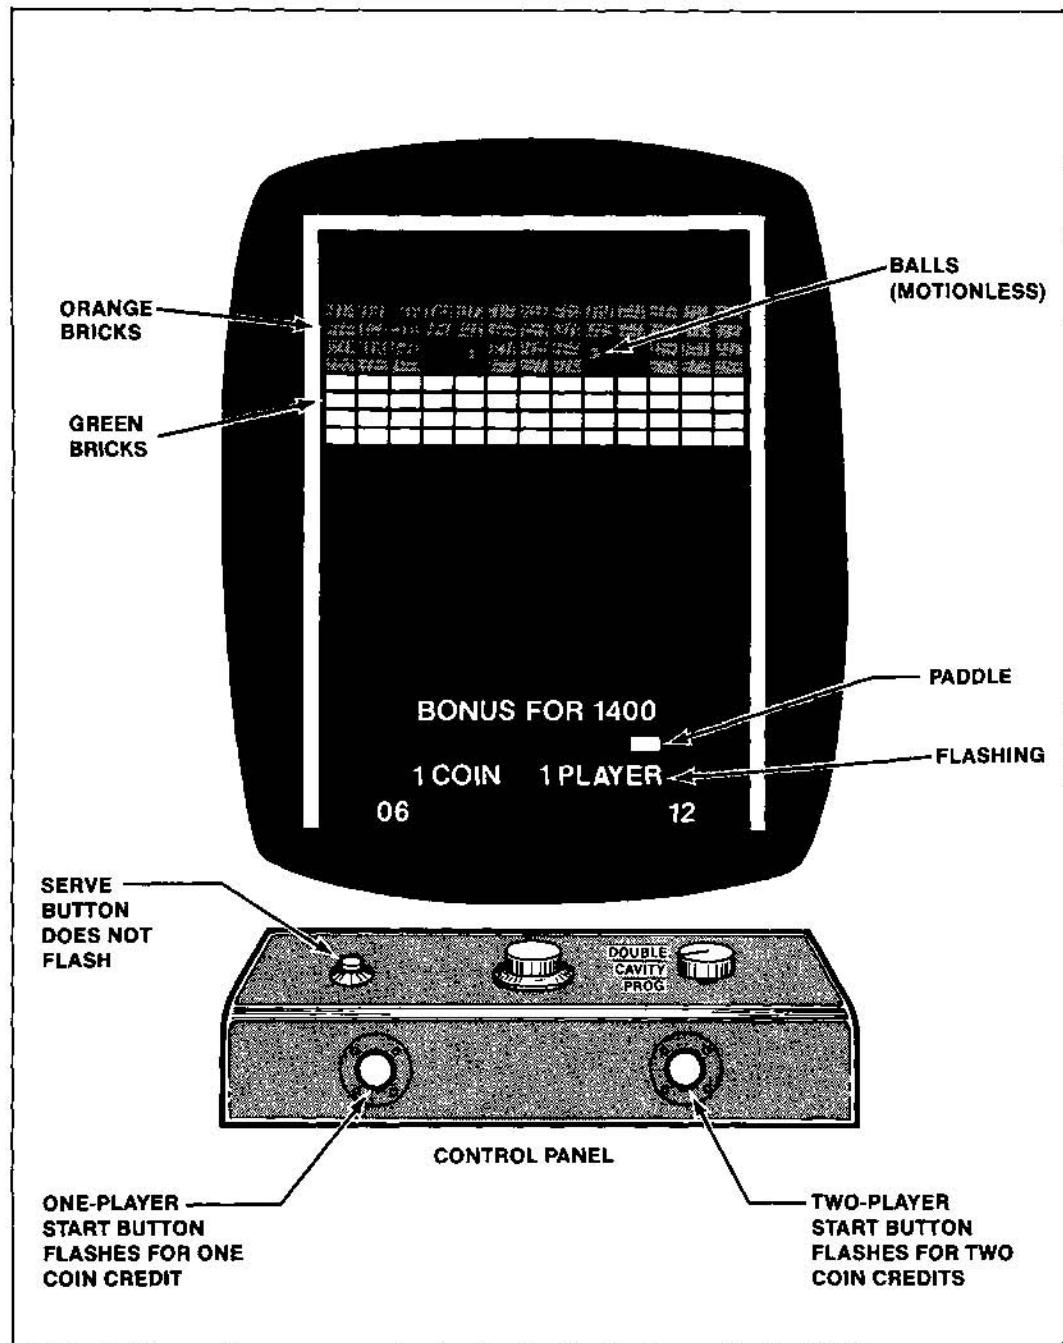
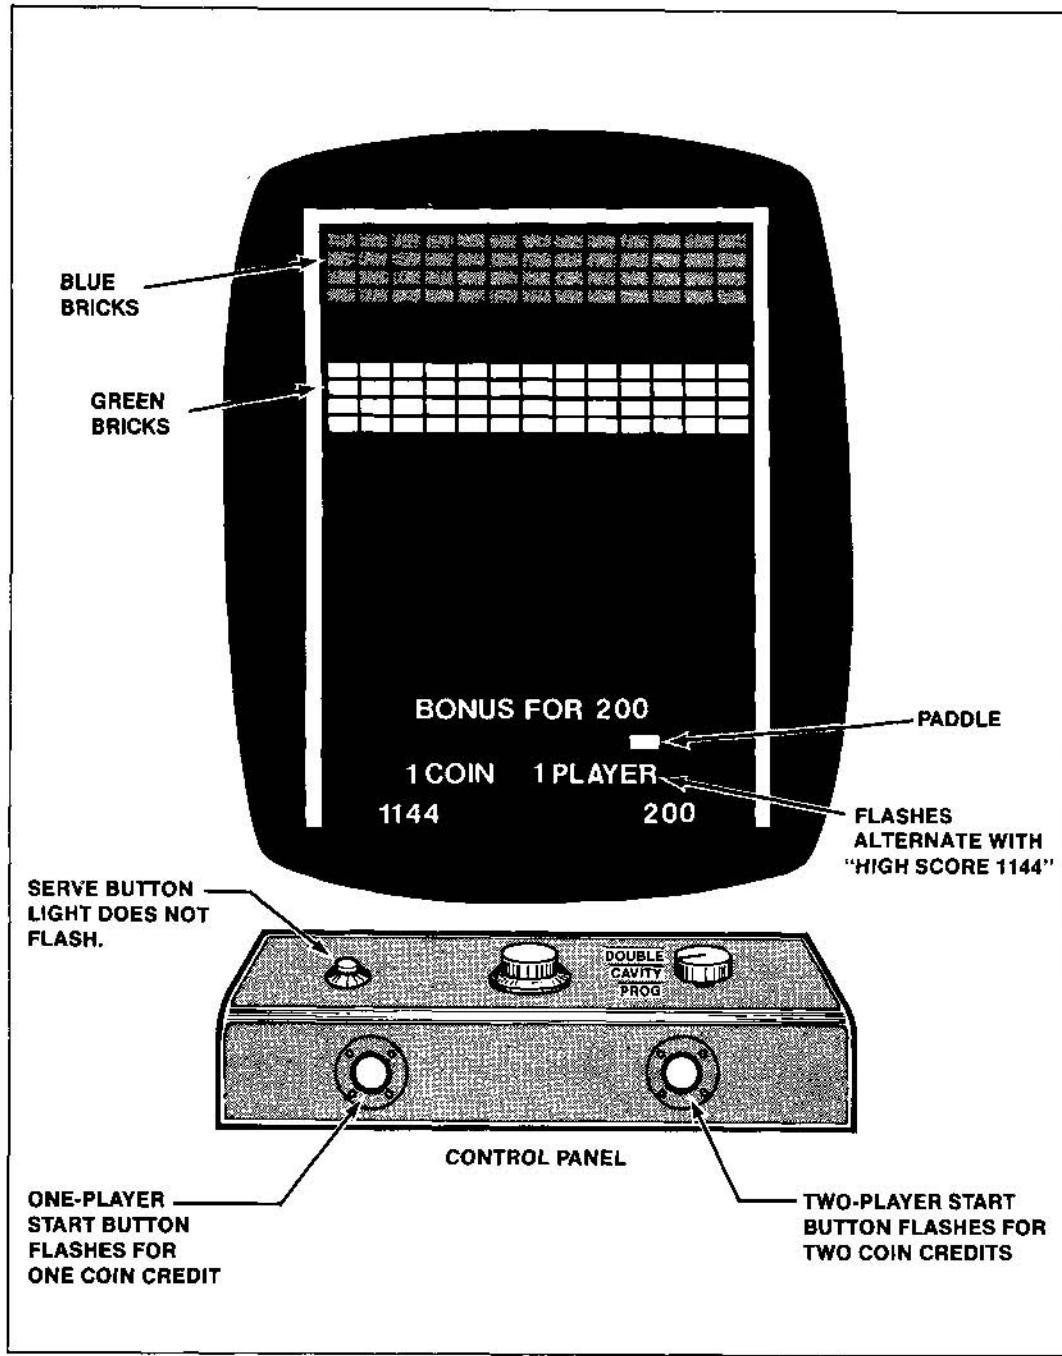
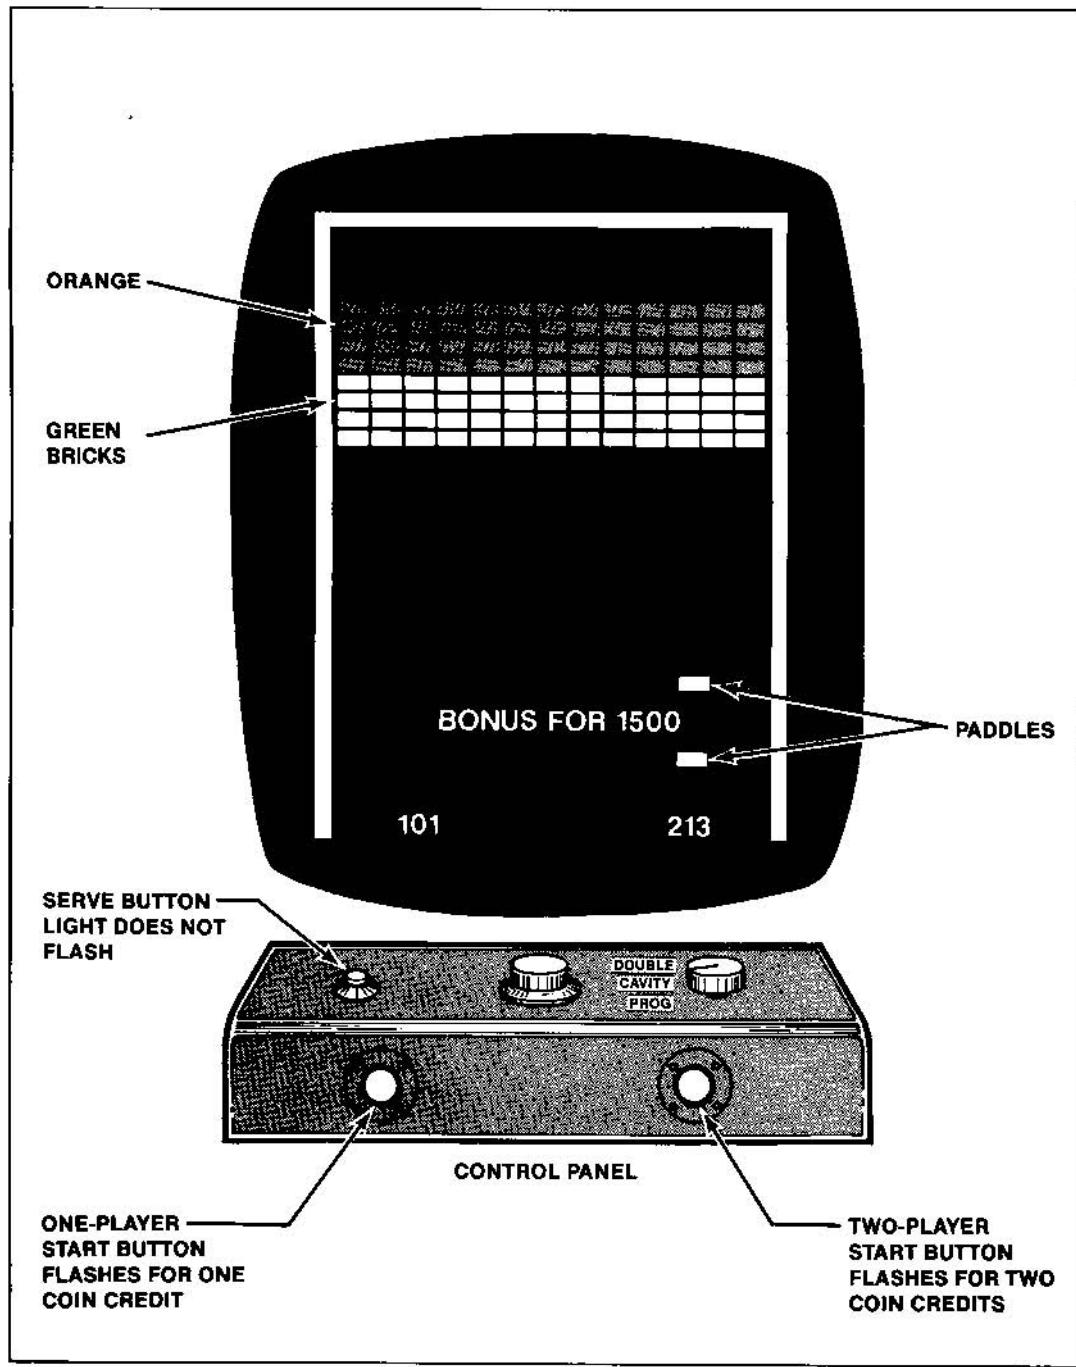

Figure 2-2 Cavity Breakout Ready-to-Play Mode
Figure 2-3 Progressive Breakout Ready-to-Play Mode
Figure 2-4 Double Breakout Ready-to-Play Mode
C. READY-TO-PLAY MODE (See Figures 2-2, 2-3, 2-4)
The ready-to-play mode exists for each game selection as illustrated in Figure 2-2 (Cavity), Figure 2-3 (Progressive), and Figure 2-4 (Double). This mode is immediately initiated after the coins are accepted by the coin mechanism or at the end of a game with credits remaining. After the coins are accepted, the rotary game select switch becomes active and the screen changes from its current attract mode playfield display sequence to the playfield corresponding to the game select switch setting. For example, if the screen displays a Double Breakout while in the attract mode and the game select switch was set to either Cavity or Progressive, the display would immediately change from the attract mode Double game playfield to the Cavity or Progressive ready-to-play mode playfield.